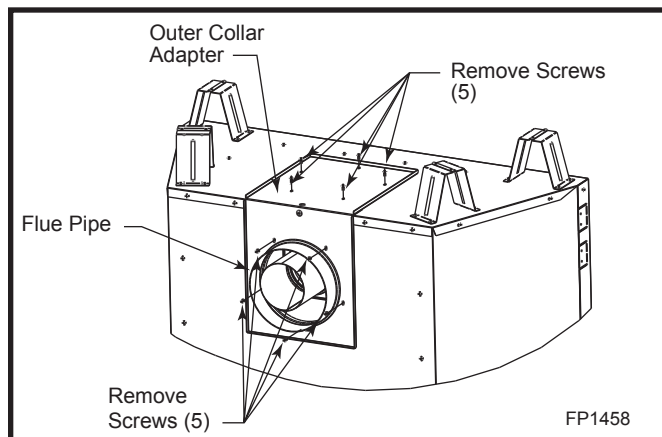

Fig. 11 Remove screws from outer collar adapter.
1. Remove the 10 screws securing outer collar adapter to fireplace. (Fig. 11)